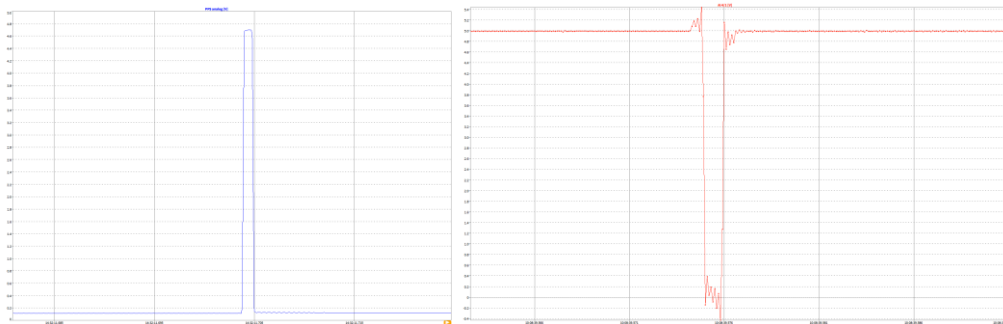

Figure 4-35: PPS signal provided by an ADMA (blue) and an RT (red)
- PPS signals may look like the following (see Figure 4-35)